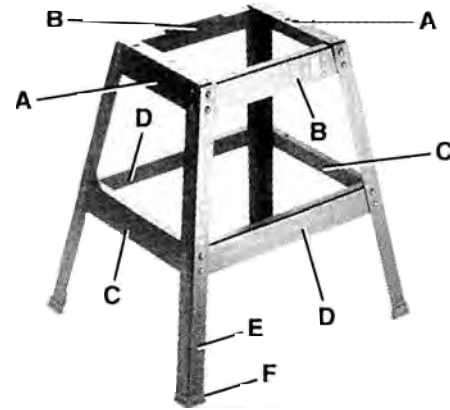

FIGURE 1
1. Assemble two 11-3/4" long top end braces (A) Fig. 1, two 15-3/4" long top side braces (B), two 16-1/2" long lower end braces (C), and two 20-1/2" long side braces (D) to four legs (E) as shown, using the thirty-two 1/2" long carriage bolts, flat washers, and hex nuts. Only tighten hex nuts fingertight at this time. **IMPORTANT:** The top lips of two upper end braces (A) must fit on top of the top lips of two upper side braces (B).
2. Assemble four rubber feet (F) Fig. 1, to the bottom of each leg (E) as shown.